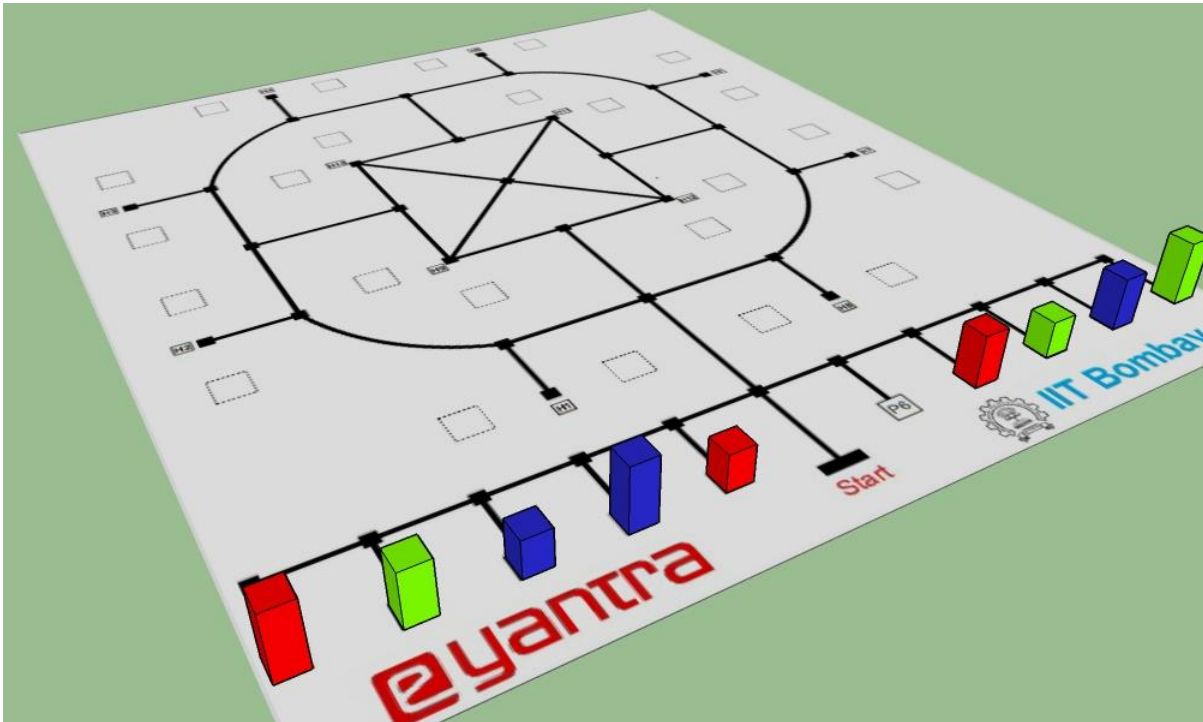

Figure 5: An Example of Placement of Pizzas on the Arena
- We provide an example in Figure 5. If the team gets this image for placement of the blocks, they will place the colored blocks as shown in this figure and proceed with the task.